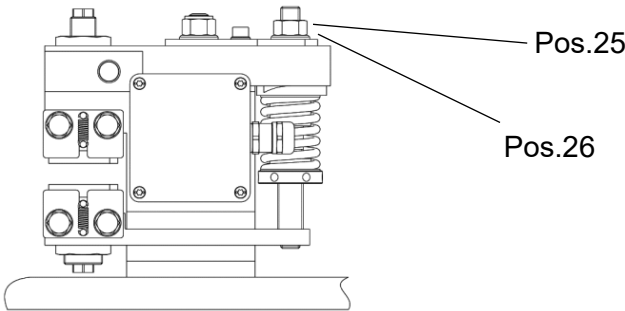

Fig. 5.1
To switch the brake without brake disc is only allowed if the assembly locking nut Pos. 25 in Fig. 5.1 remains on the brake and is loosened not more than 4 mm. Repeated switching without brake disc and without assembly locking nut can damage the brake. Unauthorized constructive modifications of the brake are similarly prohibited. If the grub screw pos. 44 is provided with sealing wax at the factory, the clamping force on the brake cannot be adjusted by the customer!
To switch the brake without brake disc is only allowed if the assembly locking nut Pos. 25 in Fig. 5.1 remains on the brake and is loosened not more than 4 mm.
The brake is tested prior to delivery. The braking force is adjusted to the maximum braking force. The compression spring for the clamping force is fixed in the open position by the assembly locking nut Pos. 25 in Fig. 5.1, to assemble the brake to the disk without supply voltage.
To use the brake the electronic Pos. 34 (included in the scope of delivery) is mandatory. Do not connect the brake directly to the supply voltage. To switch the brake without brake disk is only allowed if the assembly locking nut Pos. 25 in Fig. 5.1 remains on the brake and is loosened not more than 4 mm.